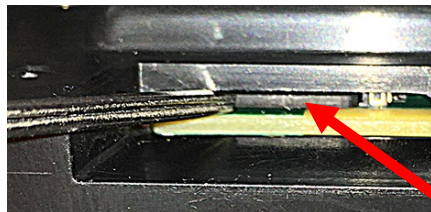

Figure 30
31. Insert the new SD card with contacts down towards the board (see Figure 29) into the new controller. Gently push the SD card into the SD card slot until it locks in place (see Figure 30).